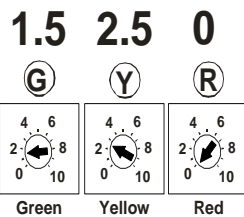

FIGURE 6
11. Remove the door from the Fi2000 box to expose the LED's. The pot settings on the Fi2000 must be set to match the proper intake and exhaust configuration - Refer to Figure 6 and the **Advanced Tuning** section to determine the proper configuration. Once the proper pot setting have been chosen set the pot dials using a small flat blade screwdriver. Verify the wire connections by (1) turning the ignition on, prior to starting, and see if all three LED's are on steady. If you have no light, your ground connection (BLACK wire) has not made proper contact or the injector connections are not complete. (2) After achieving a steady light from all three LED's, start the motorcycle, wait 15 seconds and let it idle, the green light should now be the only LED on. If all three LED's are still on after start up, verify you have attached the injector connectors correctly. Reattach the door when finished. **Note:** Make sure the ignition is turned off before changing any connection.
Your Fi2000 fuel injection module has been tested and preset for best function and rideability on a motorcycle with aftermarket aircleaner and aftermarket performance slip-on mufflers. If your motorcycle has a different intake and exhaust configuration please read below for the appropriate pot setting, and change the pot dials to these settings. Remove the door to expose the pots shown in Figure 6. The Fi2000 does have 3 important adjustments that allow you to tune the module for optimum performance, especially if you have performed other changes to your motorcycle. These adjustments also allow you to resolve drivability issues if our stock settings are not exactly right for your bike. Make sure your motorcycle is up to normal operating temperature (15 minutes of riding should be sufficient) before making any adjustments.
Typically full exhaust headpipe systems require one additional increase, however we recommend starting with the settings in Figure 6, and then adjusting the yellow and red pots, should the engine exhibit lean characteristics.